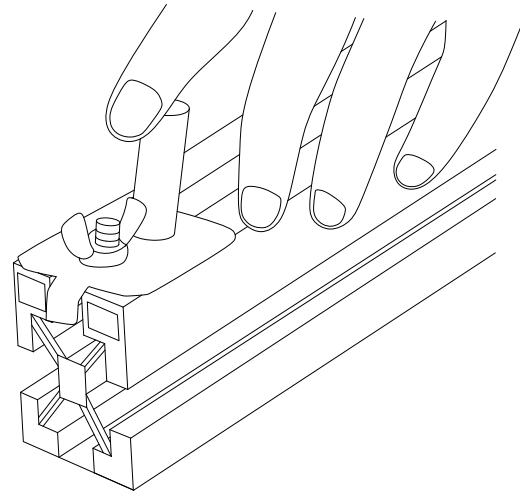

Fig. 1a
**Step 2:** Decide which two extrusions will be the sides of the booth. Slide the in-line pole connectors (Item C) into those extrusions approximately to the middle. Lightly tighten thumb screw. Fig. 1a (left)